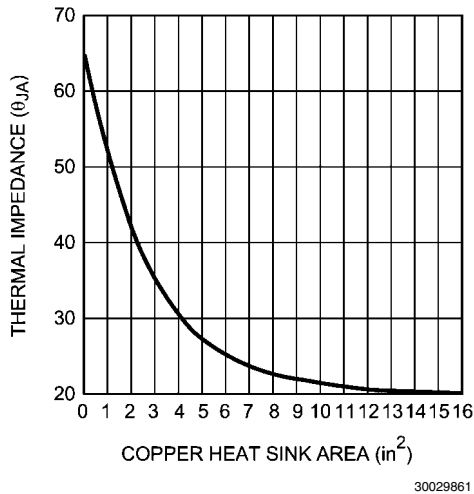

FIGURE 7. Thermal Resistance for 5 lead TO-263 Package Mounted on 1oz. Copper
The TO-263 package has excellent thermal characteristics. To minimize thermal impedance, its exposed die attach paddle should be soldered to a circuit board copper area for good heat dissipation. Figure 7 shows typical thermal resistance from junction to ambient as a function of the copper area. The TO-263's exposed die attach paddle is electrically connected to the V_{EE} power supply pin.
If a heat conductive copper plane has perfect thermal conduction (heat spreading) through the plane's total area, the temperature rise is inversely proportional to the total exposed area. PCB copper planes are, in that sense, an aid to convection. These planes, however, are not thick enough to ensure perfect heat conduction. Therefore, eventually a point of diminishing returns is reached where increasing copper area offers no additional heat conduction to the surrounding air. This is apparent in Figure 7 as the thermal resistance reaches an asymptote above a copper area of 8in²). As can be seen, increasing the copper area produces decreasing improvements in thermal resistance. This occurs, roughly, at 4in² of 1 oz copper board. Some improvement continues until about 16in². Boards using 2 oz copper boards will have decrease thermal resistance providing a better heat sink compared to 1 oz. copper. Beyond 1oz or 2oz copper plane areas, external heat sinks are required. Ultimately, the 1oz copper area attains a nominal value of 20°C/W junction to ambient thermal resistance (θ_{JA}) under zero air flow.
5. θ_{JA} as a function of copper area in square inches is shown in Figure 7. Choose a copper area that will guarantee the specified $T_{J(MAX)}$ for the calculated θ_{JA} . The maximum value of junction to ambient thermal resistance, θ_{JA} , is defined as:
4. Finally, choose the minimum value of copper area from Figure 7 based on the value for θ_{JA} .